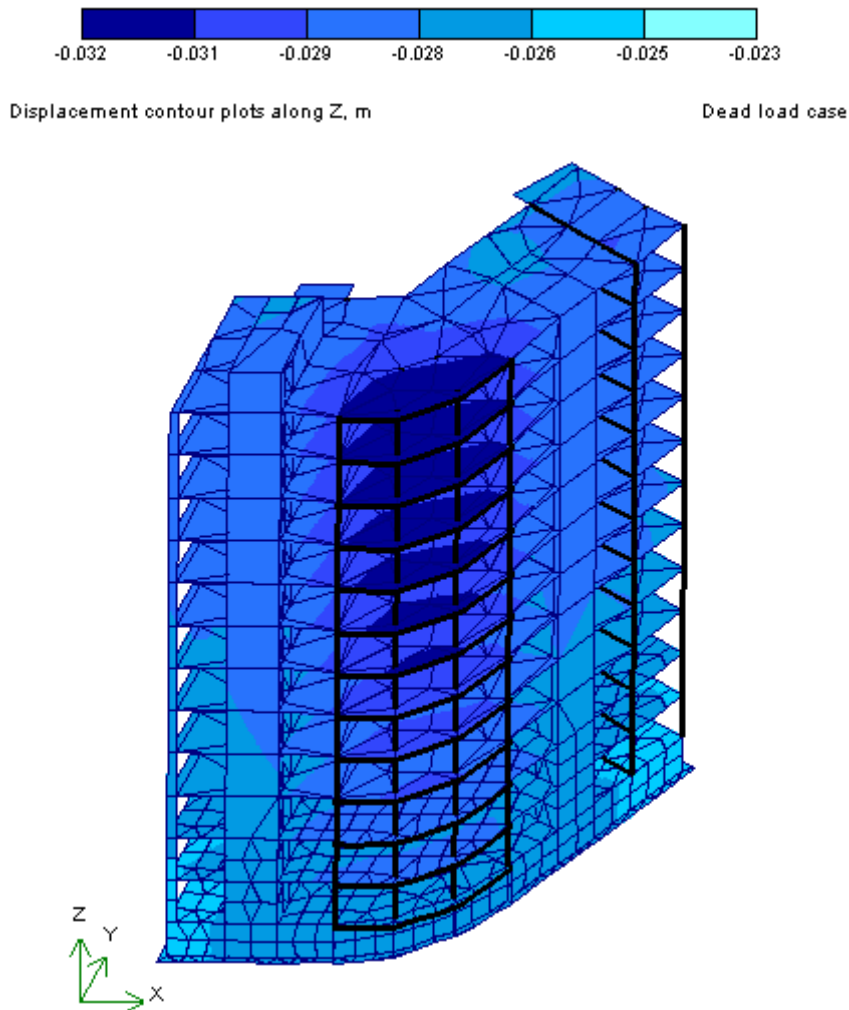

Figure 1.21.2 Displacements contour plots on deformed shape
- ⇒ Compare range of values for displacements and the deformed shape for the specified combination of load cases and for the dead load case (see Fig.1.21.2).